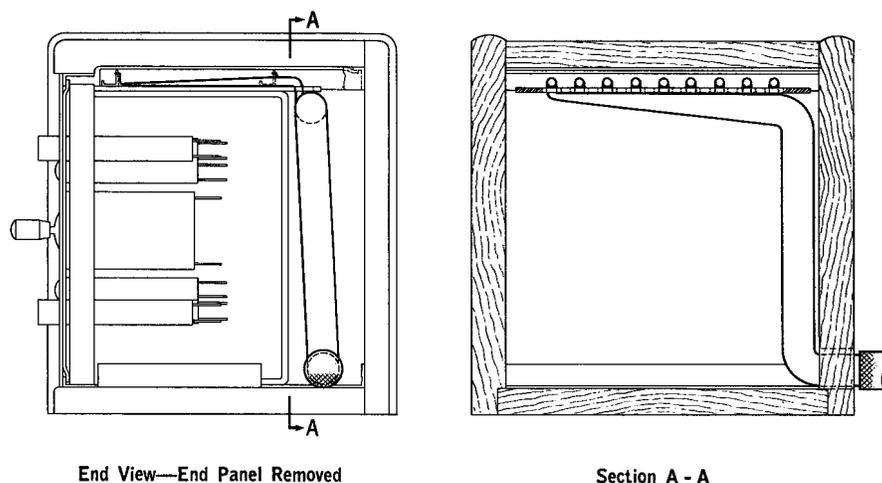

Fig. 6 — Cable Arrangement
3. Place cable as shown in Fig. 6. Drill larger hole if necessary.